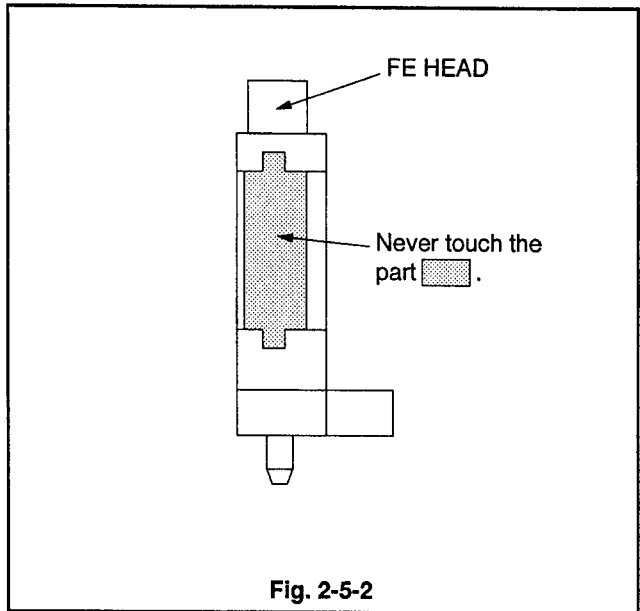

Fig. 2-5-2
- Note :** Do not touch the part shown in Fig. 2-5-2.